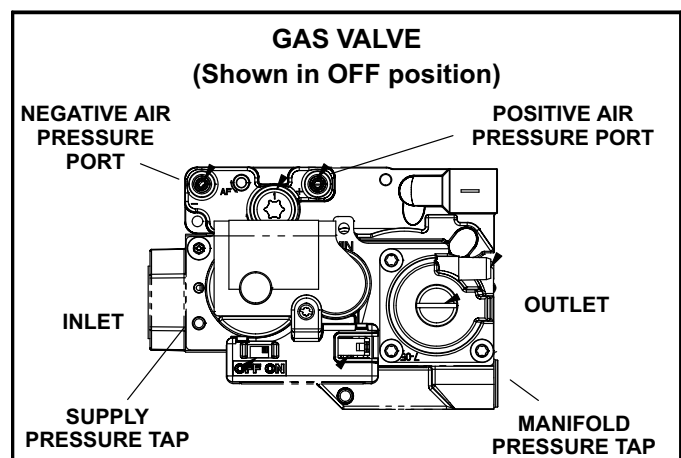

FIGURE 46
#### Gas Valve Operation (Figure 46)
- 6 - Move the gas valve switch to the **OFF** position. See figure 46.
- 8 - Move gas valve switch to the **ON** position. See figure 46. Do not force.